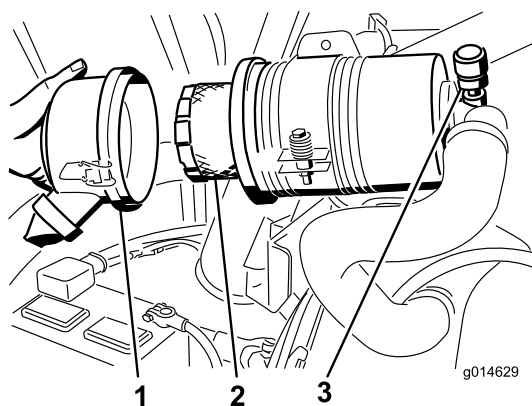

Figure 62
3. Remove and replace the filter (Figure 62).